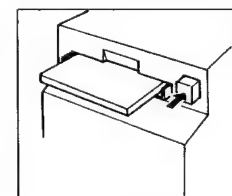

Figure 20
- 2) Press the EJECT button with your index finger to eject the cartridge. (Figure 20)